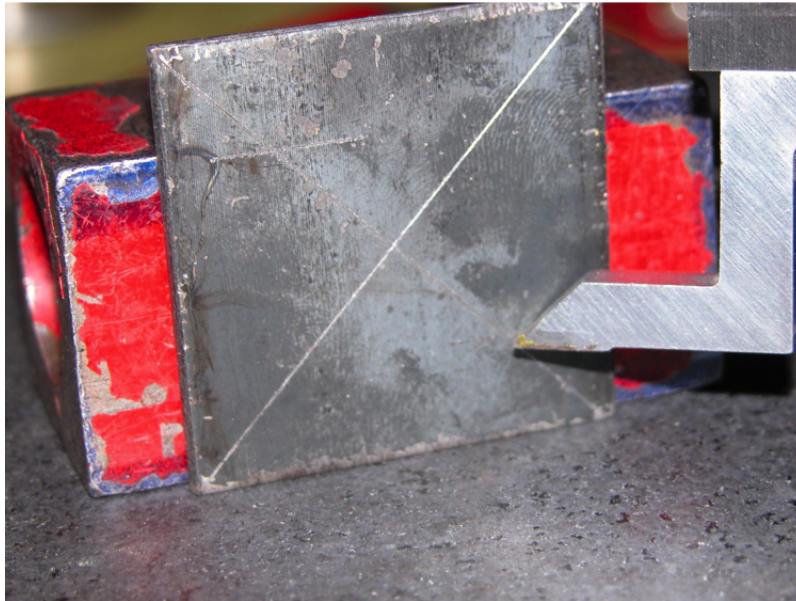

Figure 3—Scribing for #3
- c. For #3, scribe an “X” from corner to corner to find the centre. Then from one corner and its diagonal corner, scribe a line at $\frac{1}{2}$ " (Figure 3), then centre-punch the three intersections.